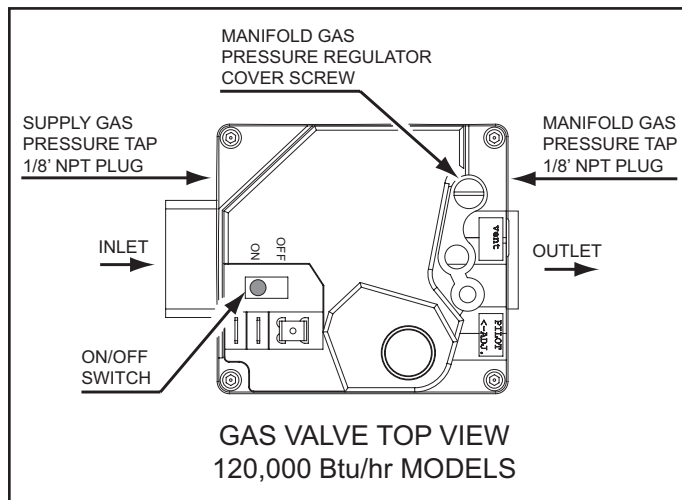
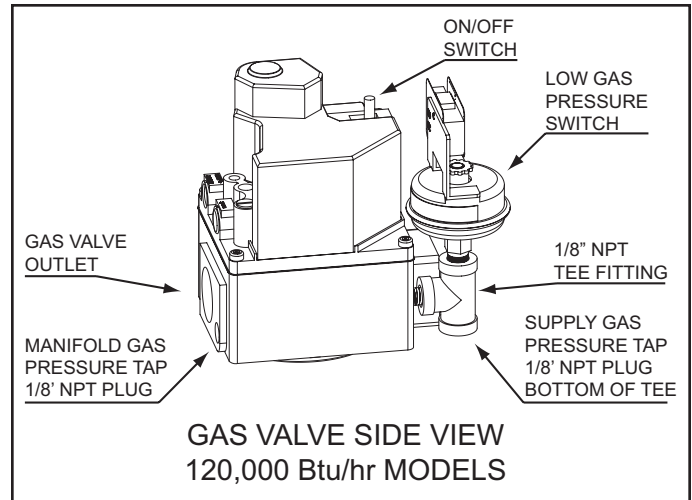

Figure 52
Figure 53
On SCG3/SCX3 100T models there is a 1/8" NPT Tee fitting and pipe nipple installed for the Low Gas Pressure switch on the inlet side of the 24 Volt Gas Valve with a 1/8" pipe plug for this purpose. Remove the 1/8 inch pipe plug from the bottom of the Tee fitting and install a barb fitting to connect the manometer sensing tube, see Figure 53 on page 51.
SCG3/SCX3 100T models: remove the 1/8 inch pipe plug from the body of the gas valve on the outlet side and install a barb fitting to connect the manometer sensing tube, see Figure 52 on page 51.
- SCG3/SCX3 100T models: turn the on/off switch on the gas valve to the “on” position, see Figure 52 and Figure 53.
2. Remove the manifold gas pressure regulator cover screw, see Figure 52 on page 51.